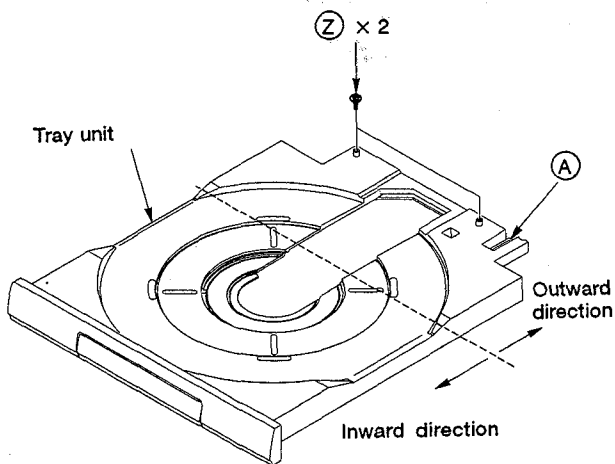
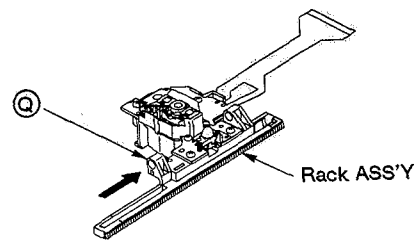

Fig. 1-1
Fig. 1-3
2. Remove the two fixing screws (Z) (Fig. 1-1).
4. Pull out the tray unit while pressing the hook (A) (Fig. 1-1), located on the rear right side of the tray unit, to the left.
2. Make sure that the position of the lens in the pickup assembly is such that the lens stops outside the position indicated by the dotted line in Fig. 1-1. When the lens stops inside the dotted line, slowly press the (Q) portion of the rack assembly (Fig. 1-3) to move the lens in the pickup assembly until the lens is outside the position indicated by the dotted line in Fig. 1-1. Note that by not going through this process, opening the CD tray and removing the tray ASS'Y would be more time-consuming.
3. Slowly press the ③ portion of the rack assembly (Fig. 1-3) to move the lens in the pickup assembly until the lens is outside the position indicated by the dotted line in Fig. 1-1.